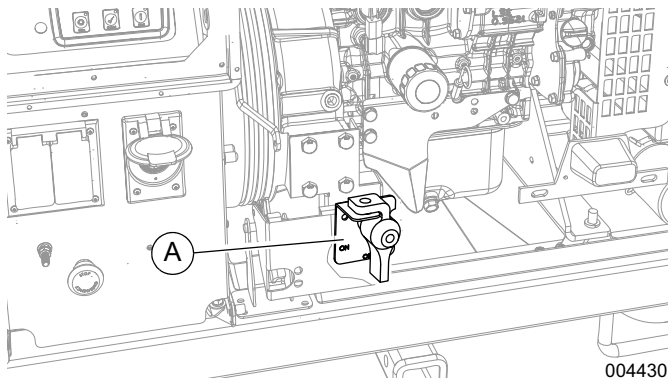

Figure 2-9. Battery Disconnect
See **Figure 2-9**. This unit may be equipped with a battery disconnect switch (A). This lockable switch temporarily removes the battery from the unit electrical circuit without actually disconnecting the battery cables.